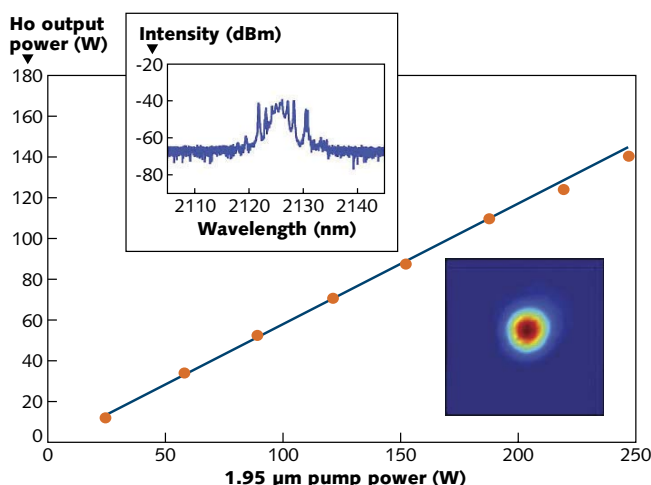

FIGURE 4. A cladding-pumped Ho-doped silica fiber laser operating at 2.13 μm with 60% slope efficiency is pumped by a Tm-based fiber laser at 1.95 μm .
The free-space-pumped fiber laser made using this Ho-doped fiber recipe operated at 140 W continuous wave (CW), delivering a singlemode beam at 2.13 μm and a slope efficiency of 60% with respect to the launched pump power (see Fig. 4). A second LMA fiber with 40 μm diameter core was also fabricated and the resultant fiber laser operated at 140 W, pump limited in the same experimental configuration. In addition to CW laser cavities, a gain-switched Ho-doped fiber laser was demonstrated that produced more than 5 W average power at a 600 kHz repetition rate, 85 ns pulse duration (8 μJ) with stable linearly polarized output.